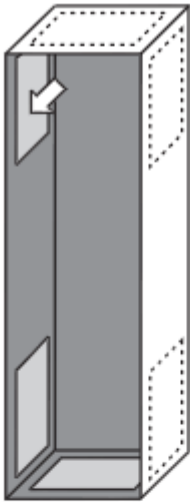

fig. 4
6. Install the 3M™ Vibration Control Tape to the inside of the top and side walls of the housing (fig.4).